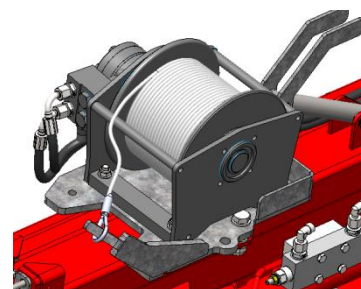

Figure: 42
- When rolling up the winch cable after using the winch, roll up the winch cable up to about one metre from the front of the machine, then guide it off of the winch sheaves, then pull the cable tight and roll it up (see figure 42).